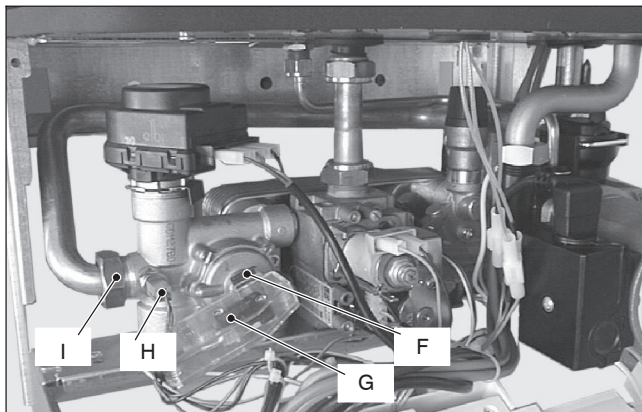

Fig. 5
- 4 Remove the fixing spring F (Fig. 5) and remove the primary circuit flow switch G.